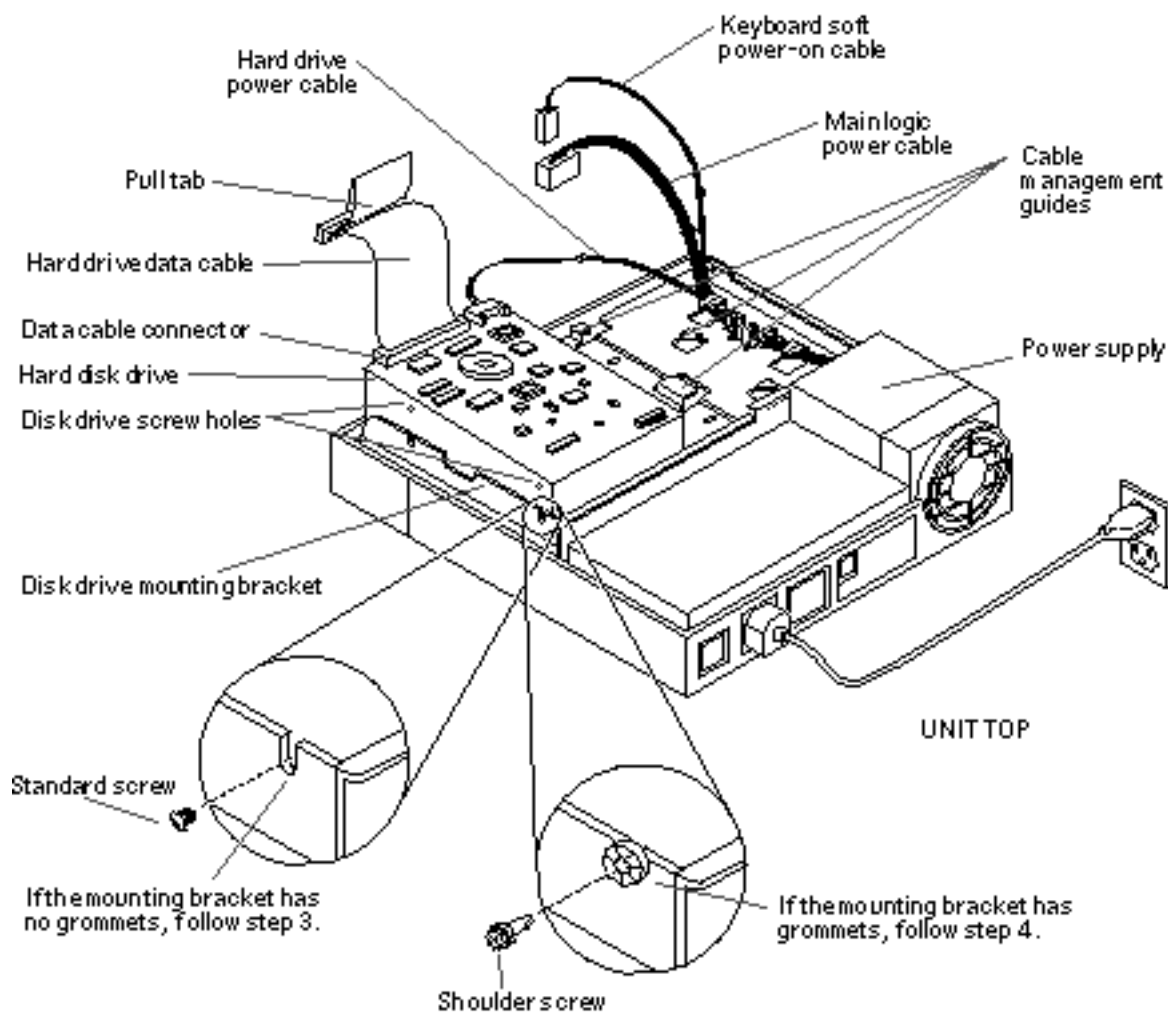

Figure 9-10 Installing a Hard Disk Drive
1. Refer to Figure 9-10.
The location of the data connector on the disk drive is shown in Figure 9-10. The data cable connector is keyed to fit only one way.